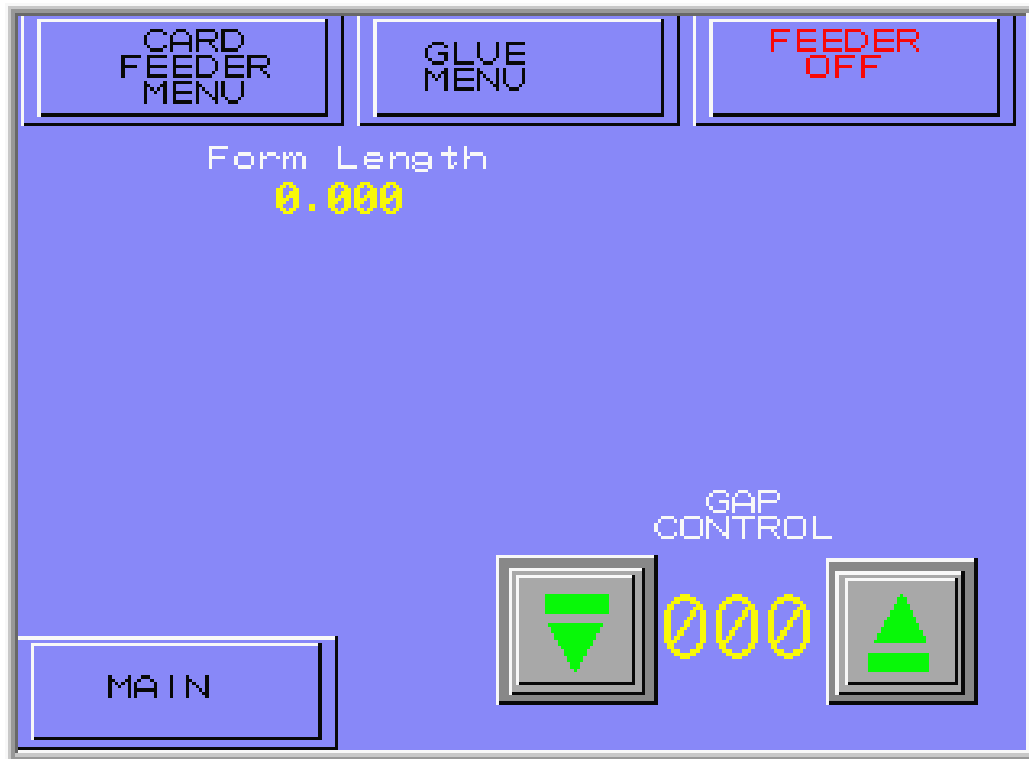

Figure III-17
- The **FORM FEEDER MENU** is now displayed on Human Machine Interface (HMI). See figure III-17.